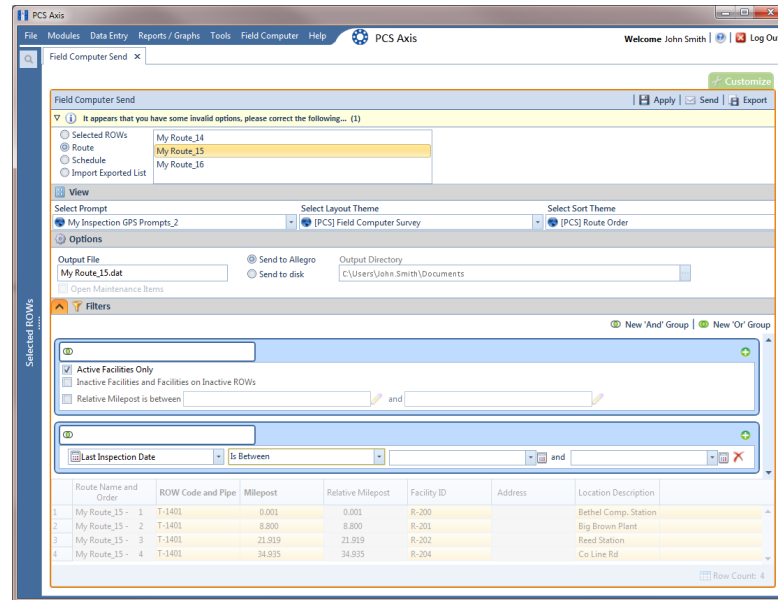

Figure 8-46. New 'And' Filter Group
- 25** If you want to add a new AND filter group, complete the following steps. With an AND filter group, PCS Axis includes a subset of records that meet *all* filter conditions defined for the filter group. Records are filtered in the grid and in the route sent to the Allegro (Figure 8-46).